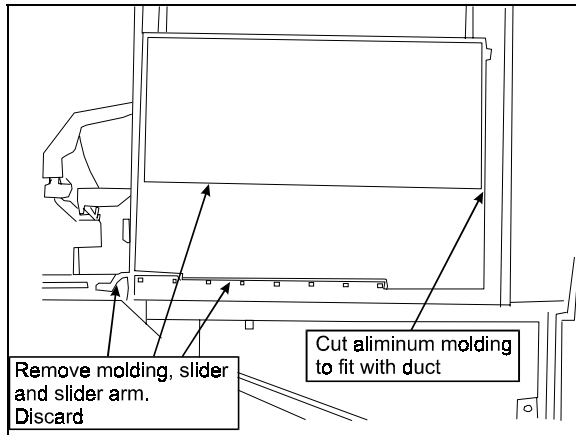

FIGURE 10
1. Remove door slider and slider arm, discard (refer to figure 10).